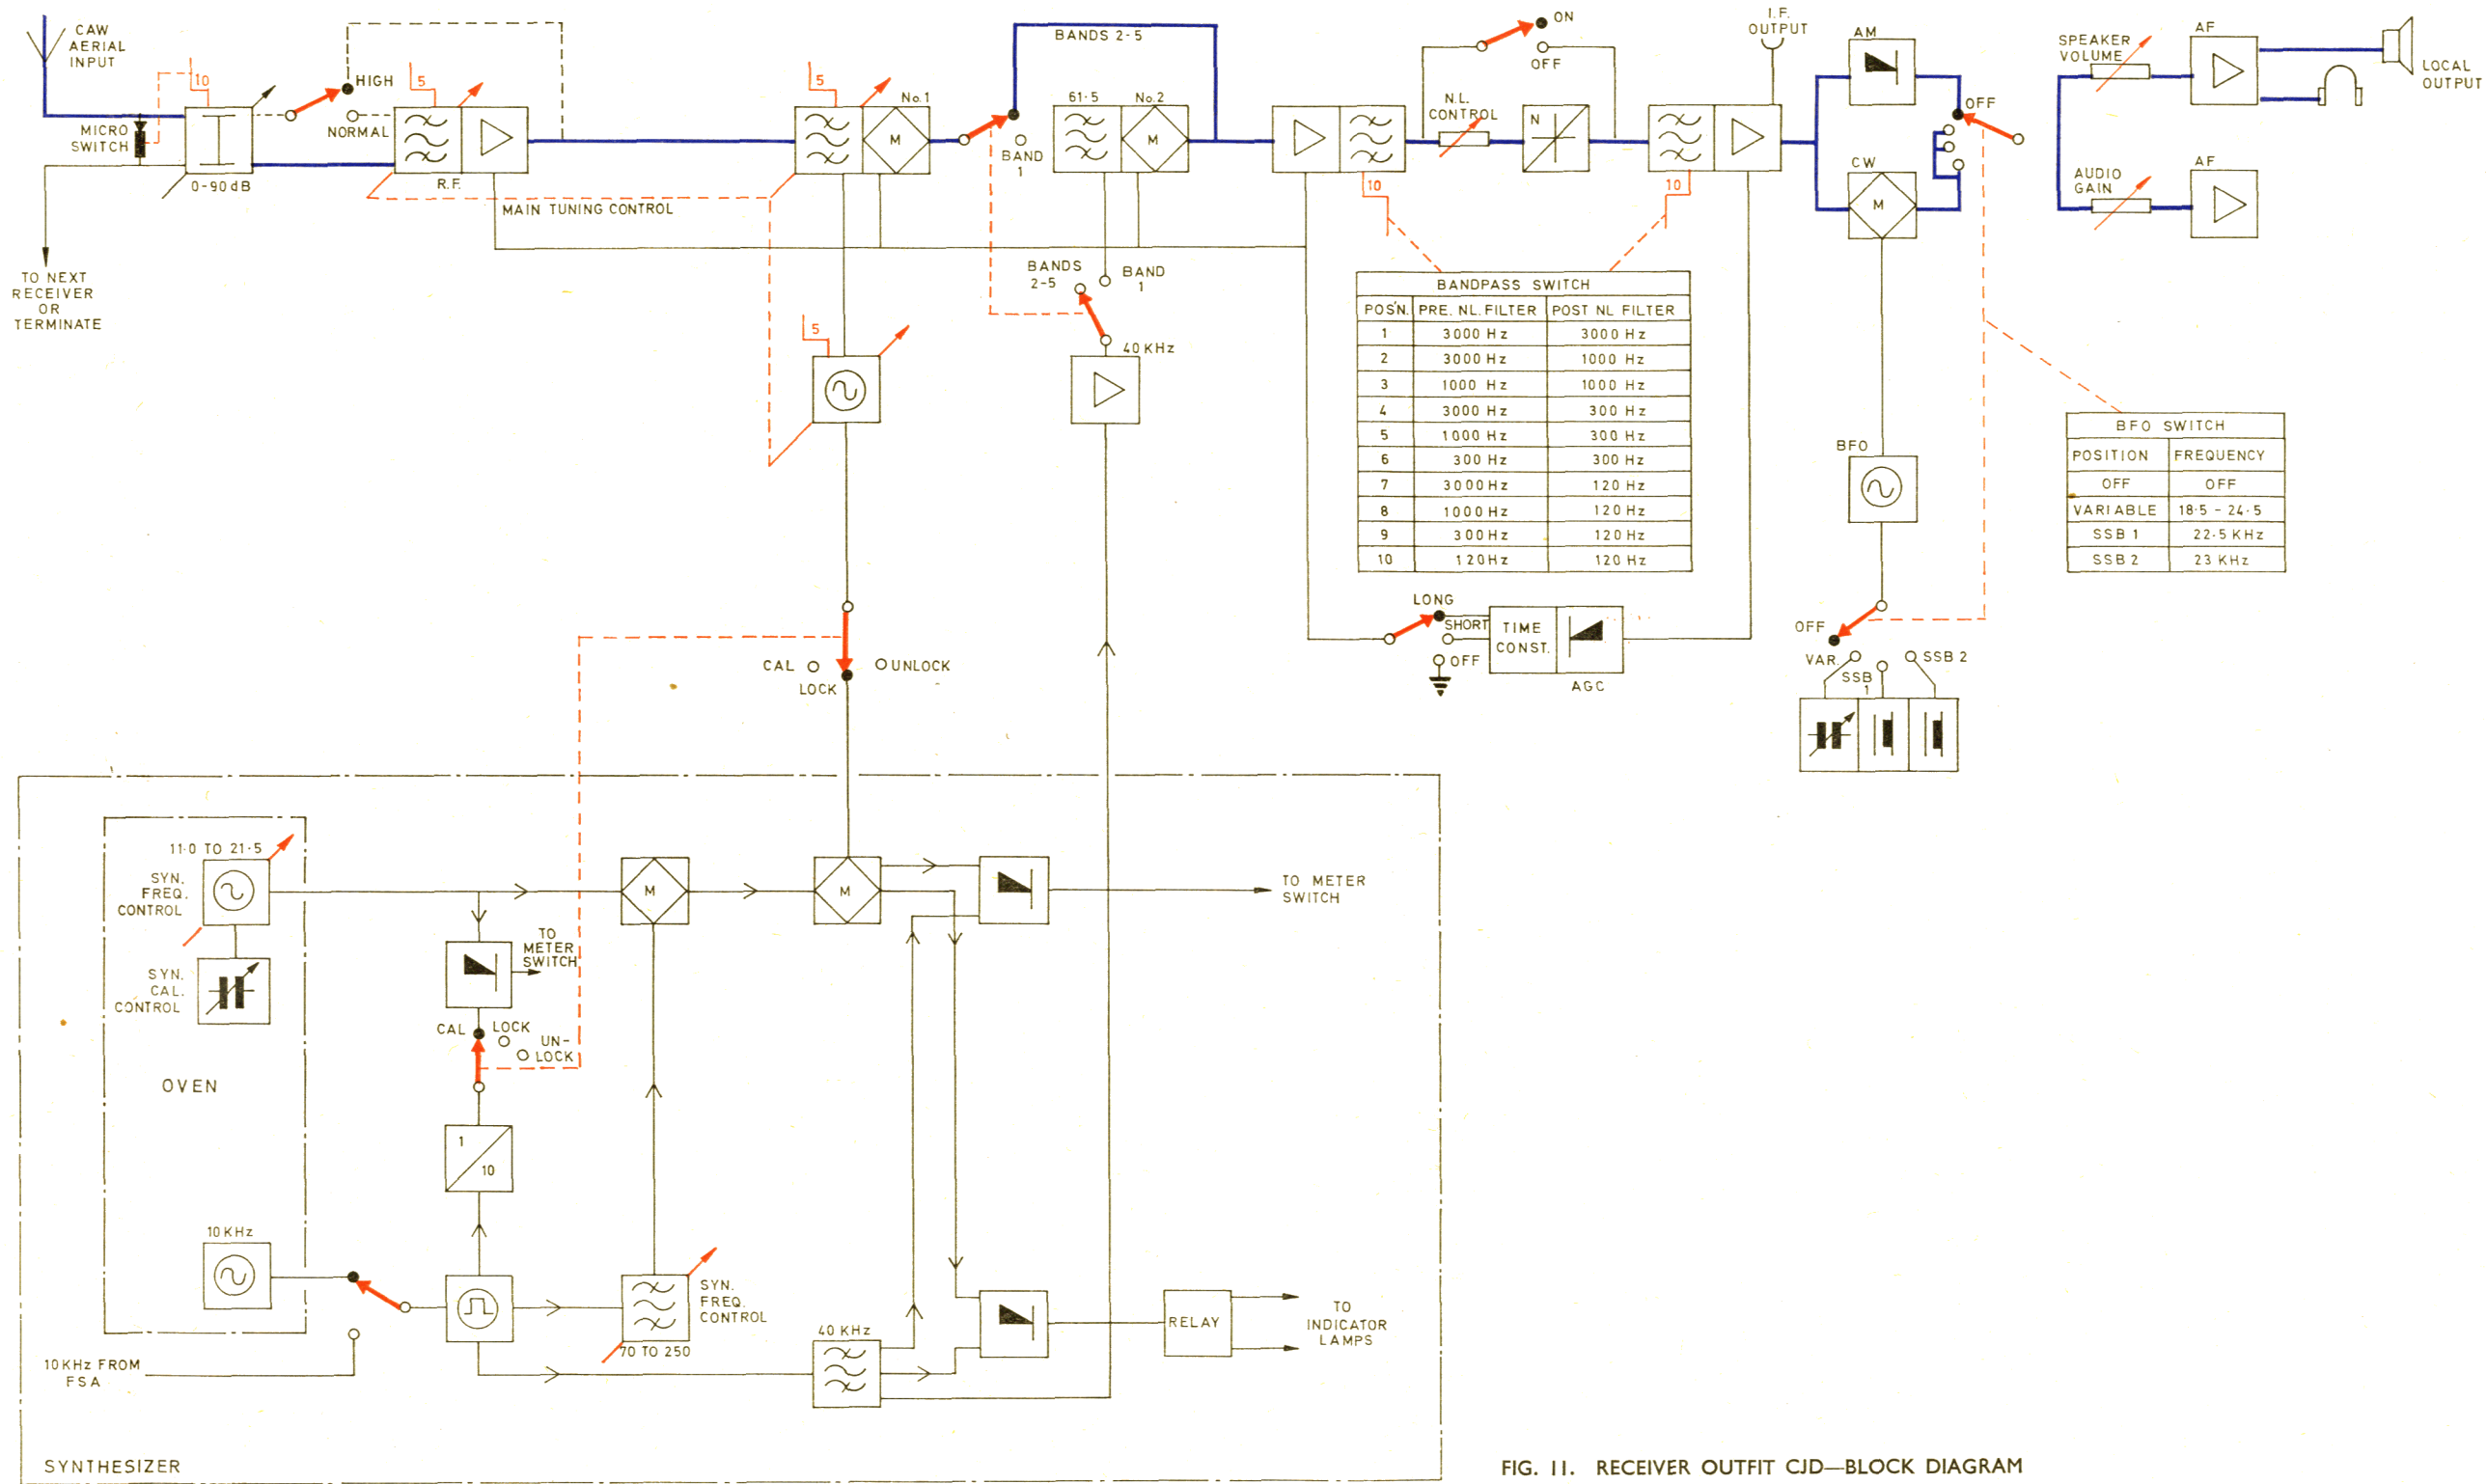

FIG. 11. RECEIVER OUTFIT CJD—BLOCK DIAGRAM
28. L.F. Receiver Outfit CJD (see Fig. 11 on page 11-4-21)
a. CJD (1) is a single mounted receiver and CJD (2) is mounted in a standard cabinet—each cabinet containing five receivers. The receivers in CJD (1) and (2) are electrically identical, but differ physically in that the power unit is mounted above the chassis in CJD (1) and behind it in CJD (2).